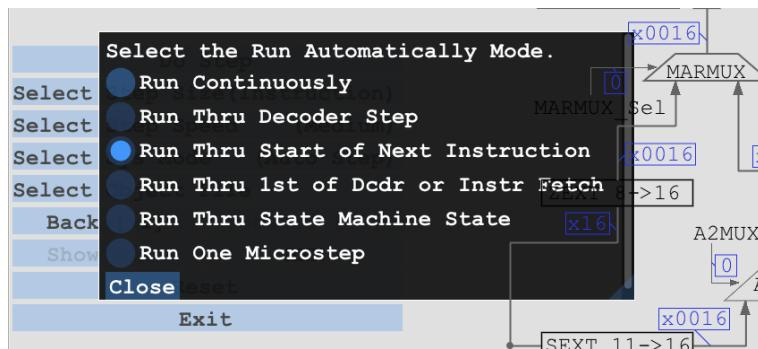

Figure 5: Select Step Size dialog. See table 15 and discussion for explanation of Auto-Step step sizes.
4. Click the “Select Step Size” button. The Step Size dialog will open, as seen in figure 5. Select “Run One Microstep” and close the dialog.